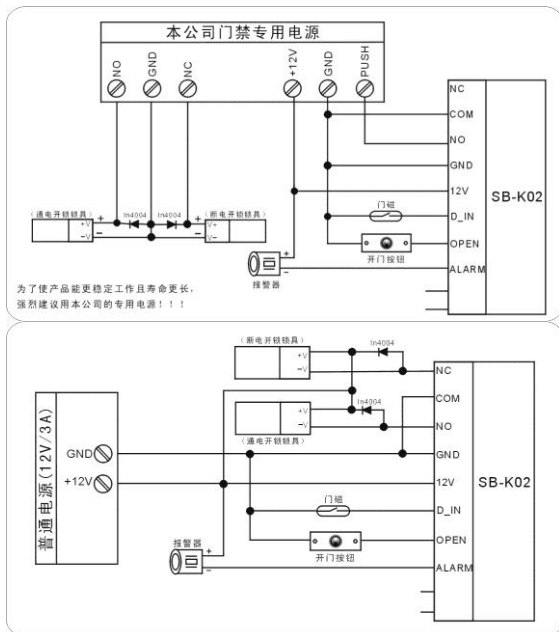

Figure 5
1. Unplug the cable harness and connect the necessary cables, (See Figure 5).
3. Plug the cable harness , (See Figure 5)